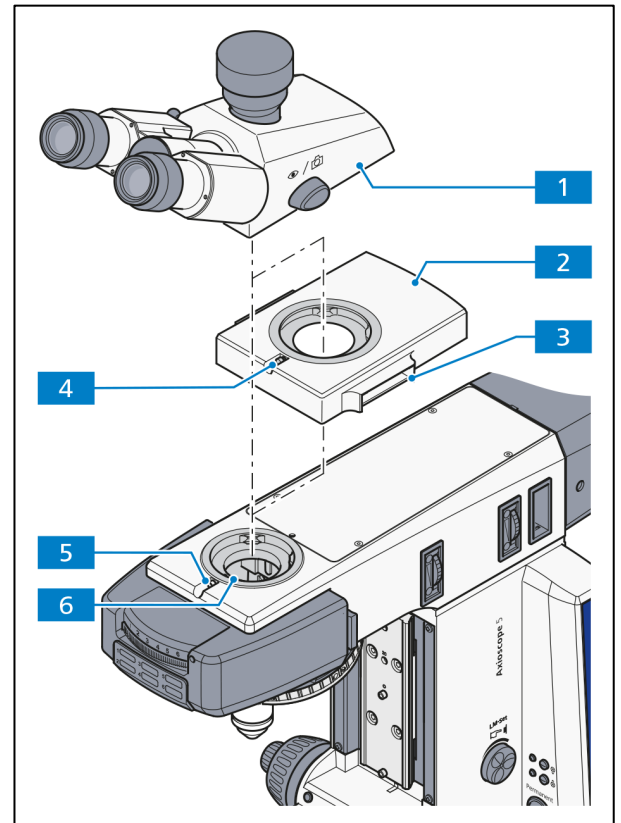

Fig. 3-40 Mounting the binocular tube with intermediate plate
- Loosen the screw (Fig. 3-40/5) with the Allen wrench (AF 3) and lift off the tube (Fig. 3-40/1).
- Insert the intermediate plate (Fig. 3-40/2) with the dovetail ring into the stand's dovetail ring socket (Fig. 3-40/6), adjust it, then fasten it with the Allen screw (Fig. 3-40/5).
- Insert the analyzer slider into the slider slot (Fig. 3-40/3) if applicable.
- Slightly incline the binocular tube (Fig. 3-40/1) when inserting it into the intermediate plate, adjust it and fasten it with the Allen screw (Fig. 3-40/4).